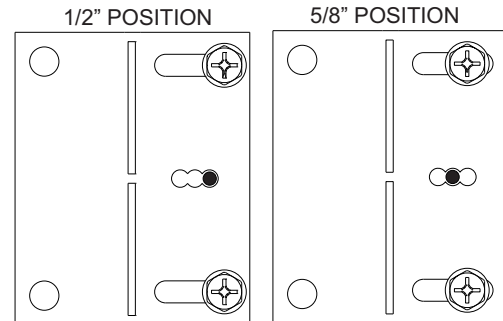

Figure 23
- If necessary, the positions of the side nailing flanges can be adjusted by loosening (but do not remove) the top and bottom screws, anchoring the bracket in place using a center screw from the hardware pack, and re-tightening the top and bottom screws. See **Figure 23**.